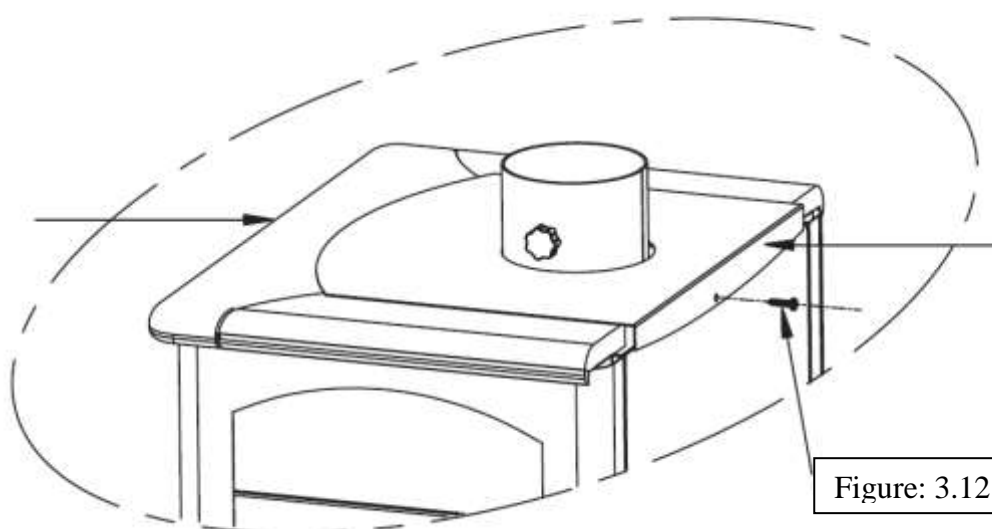

Figure: 3.12.
13. To replace the cover plate is necessary to reposition the top by a small force in the direction shown in Figure 3.12 to ensure the correct coupling between the two components. After making sure that the cover is integral with the top, it can be fixed with the screw again.